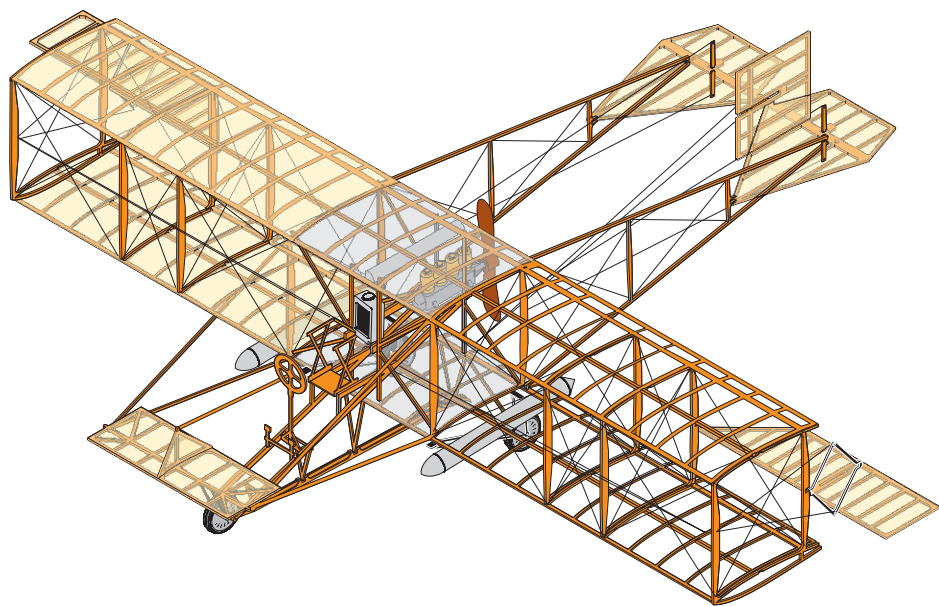

Figure 8
- D Paint the wing covering aluminium for the centre five bays of the upper and lower wings (see Figure 8).